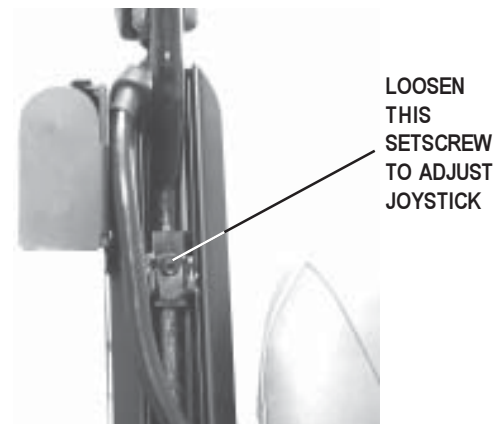

Figure 18. Joystick Extension
1. Use a 3/16-in. hex key to loosen the setscrew. See figure 18.